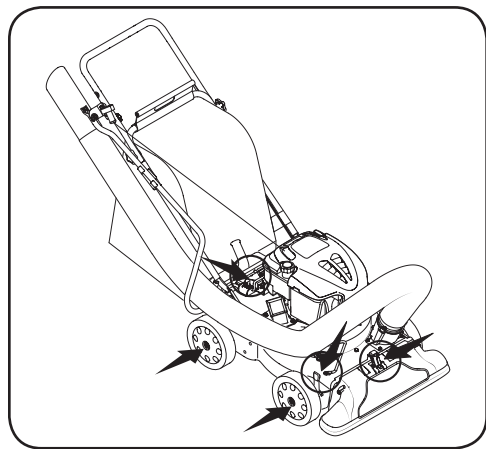

Figure 5-1
4. Lubricate the nozzle/hose vac lever on top of the nozzle once a season with light oil. See Figure 5-1.